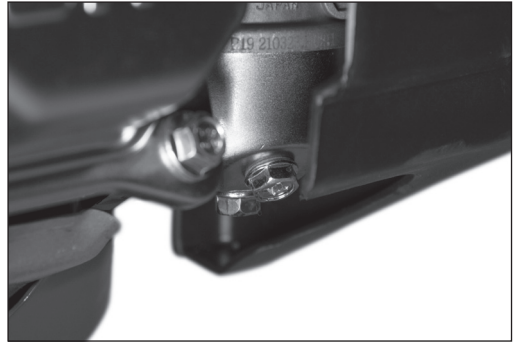

Fig. 22
5. Loosen the carburettor drain screw and drain the carburettor into a suitable container (Fig. 22).
6. Gently pull the recoil start handle (17) until resistance is felt, then pull it firmly.